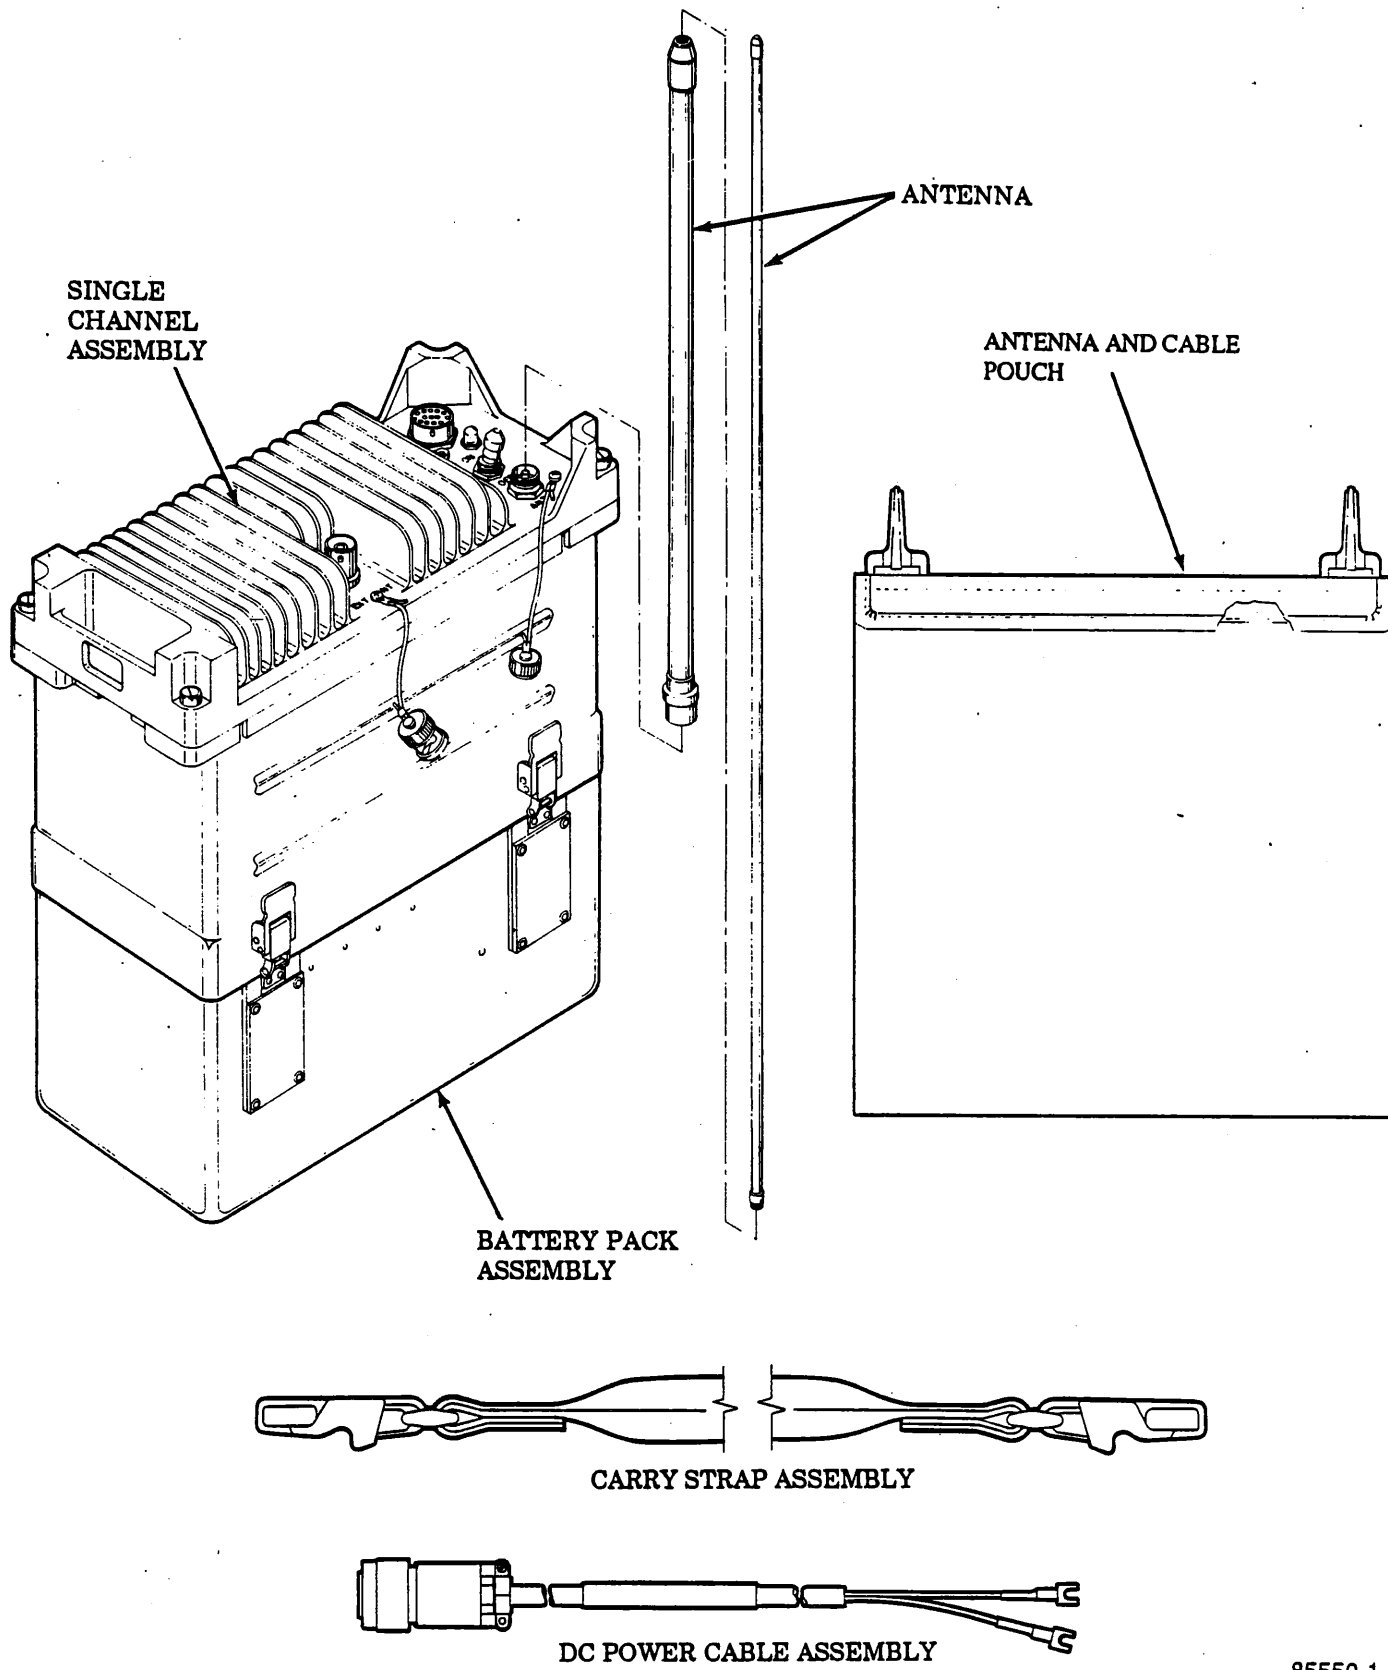

Figure 1-1. Single Channel VHF Emulator System
**1-2.1 System Identification and Purpose.** The VHF Emulator shown in Figure 1-1 is a portable, battery operated VHF transmitter that can be deployed in tactical/field environments for the purpose of communications deception. The system emulates the AN/VRC-46 radio set and its companion encryption unit, the KY-57/TSEC. It consists of a VHF assembly, Battery Pack assembly, VHF antenna, antenna pouch, DC power cable, and carry strap.
A user supplied external power source capable of providing 23.0 to 30.0 V dc at 5.5 A dc maximum is the remaining option. The DC Power Cable connects the external power source to the VHF assembly via the connector on the Battery Pack assembly (See Figure 1-1).